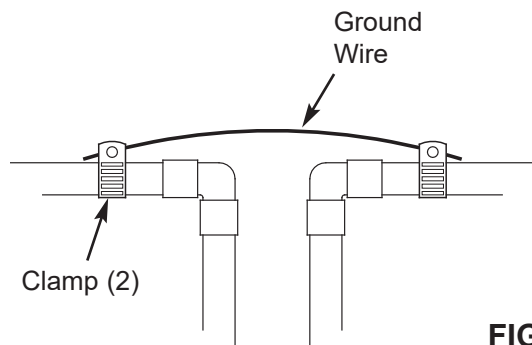

FIG. 13
- Install a #4 copper wire across the removed section of main water pipe, securely clamping at both ends (See Figure 13). Parts not included.